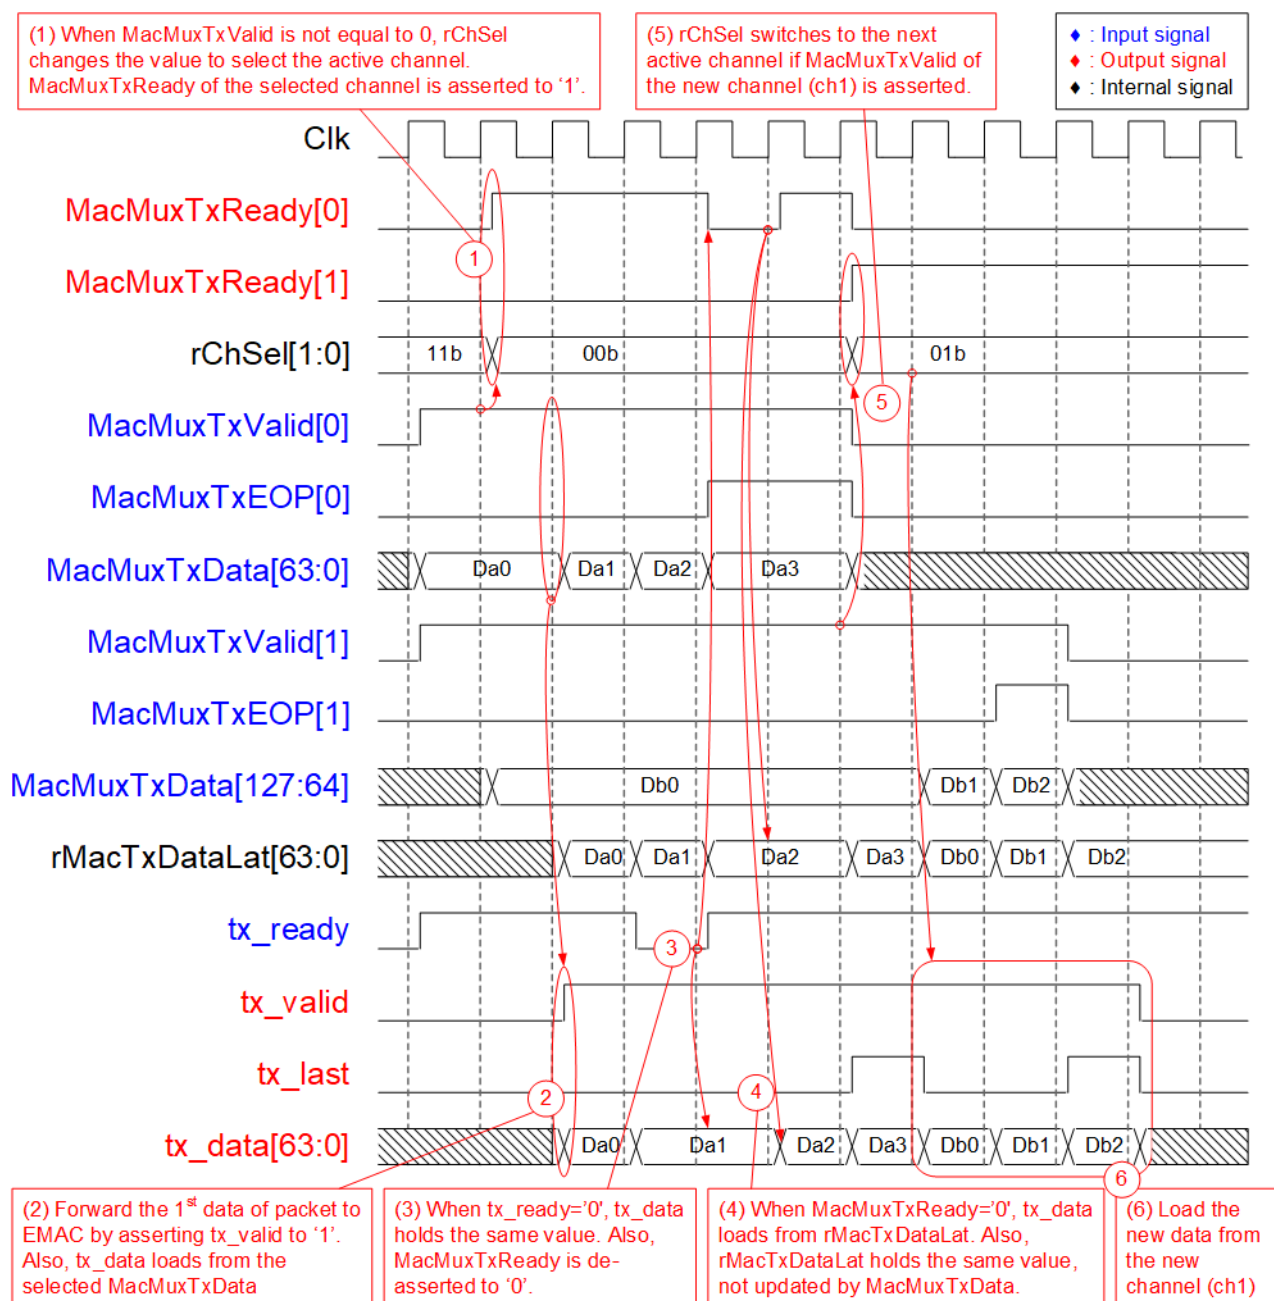

Figure 2-3 TxEMACMux4to1 timing diagram
The system consists of four TOE25G-IPs which share the same EMAC. Therefore, TxEMACMux4to1 is designed to transfer the transmitted packet from four TOE25G-IPs to one EMAC. The core signal inside this module is rChSel that is applied to select one active TOE25G-IP module from four modules. Timing diagram of this module is displayed in Figure 2-3.
- 1) If current channel (Ch#3) does not transfer the data and the new channel requests to transfer data by asserting MacMuxTxValid to '1', rChSel (the signal to indicate the active channel) will switch the value to the new channel. In Figure 2-3, there are two channels that send the request at the same time. The selected channel will be the nearest channel of the order 0 -> 1 -> 2 -> 3 -> 0. Therefore, Ch#0 is higher priority than Ch#1 when the current channel is 3. MacMuxTxReady of the selected channel (Ch#0) is asserted to '1' to accept the first data.
- 5) After accepting the final data of a packet from the active channel, the next active channel is scanned. If MacMuxTxValid of remaining channels is asserted, rChSel will update the value following the rule (0 -> 1 -> 2 -> 3 -> 0). In Figure 2-3, the next active channel is Ch#1, so rChSel is set to 01b to accept the data from Ch#1.